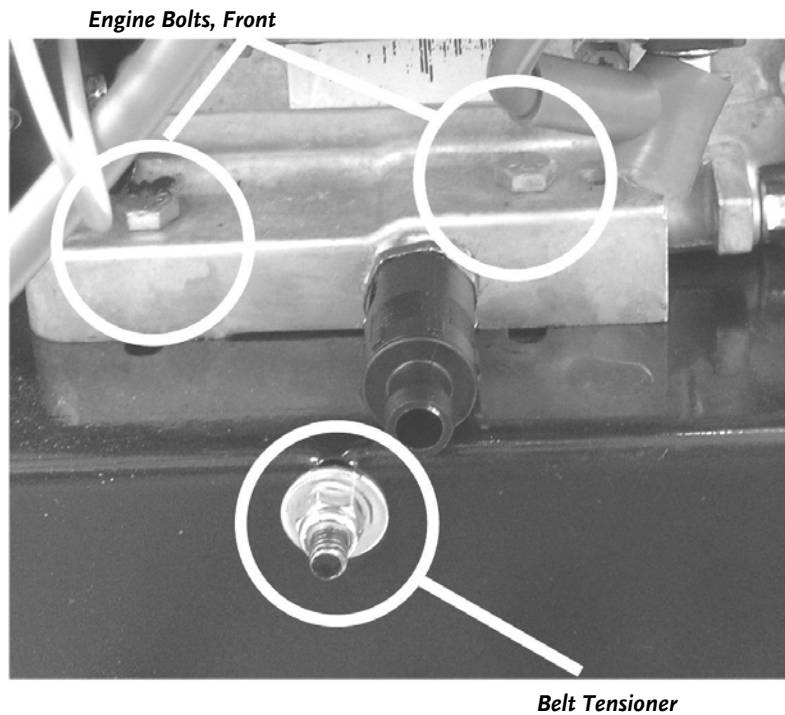
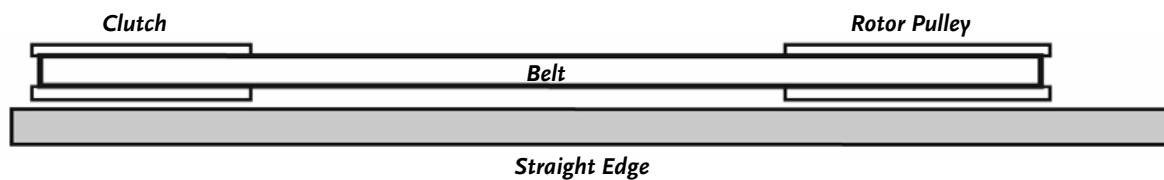

Figure 11
Figure 12
2. Loosen the four (4) Engine Bolts (2 in the Front and 2 in the Rear) using two (2) 1/2" Wrenches, one (1) on the Bolt and one (1) on the Nut underneath (**Figure 11** on page 31).
3. Tighten or loosen the nut on the Belt Tensioner (**Figure 11** on page 31) using a 1/2" Wrench until you have the correct tension as shown in **Figure 10**.
4. Retighten the four (4) Engine Bolts.
5. Check the alignment of the Clutch with the Drive Pulley by placing a straightedge across both faces as shown in **Figure 12** on page 31. If adjustment is necessary, correct the alignment as follows:
- d) Tighten the Set Screws while maintaining the alignment of the Clutch and Rotor Pulley (**Figure 12**).